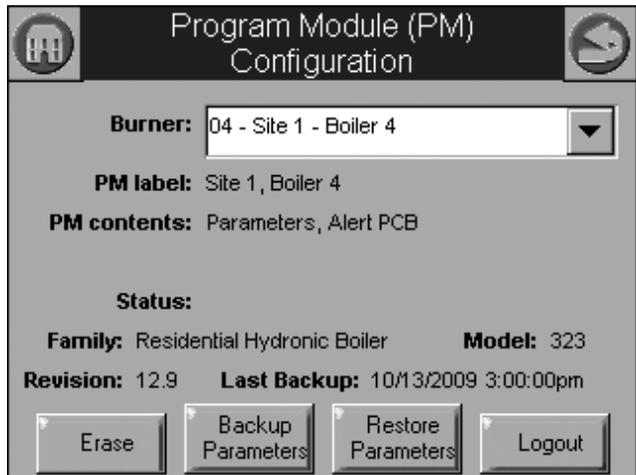

Fig. 3. Program Module Configuration page.
7. Select the burner that contains the Program Module you will be working with, as shown in Fig. 3.